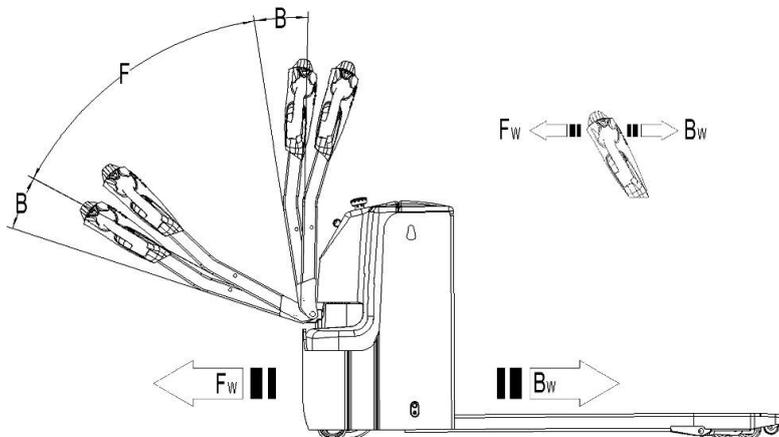

Fig. 11: Operating direction
After starting the truck by turning on the key switch (8), move the tiller to the operating zone ('F', fig.11). Turn the accelerator button to the desired direction forward 'Fw.' or backwards 'Bw.'(fig. 11).